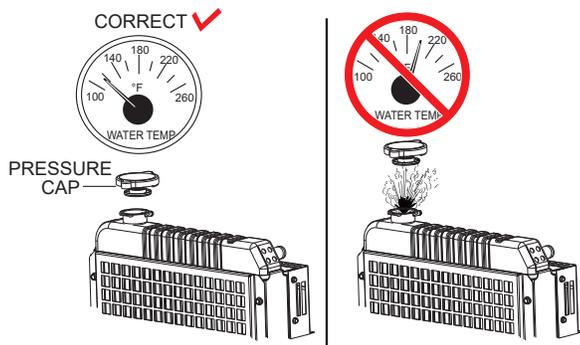

Figure 68. Radiator Pressure Cap Removal
- Remove the **radiator pressure cap** (Figure 68) only when the coolant temperature is below 120°F (50°C).